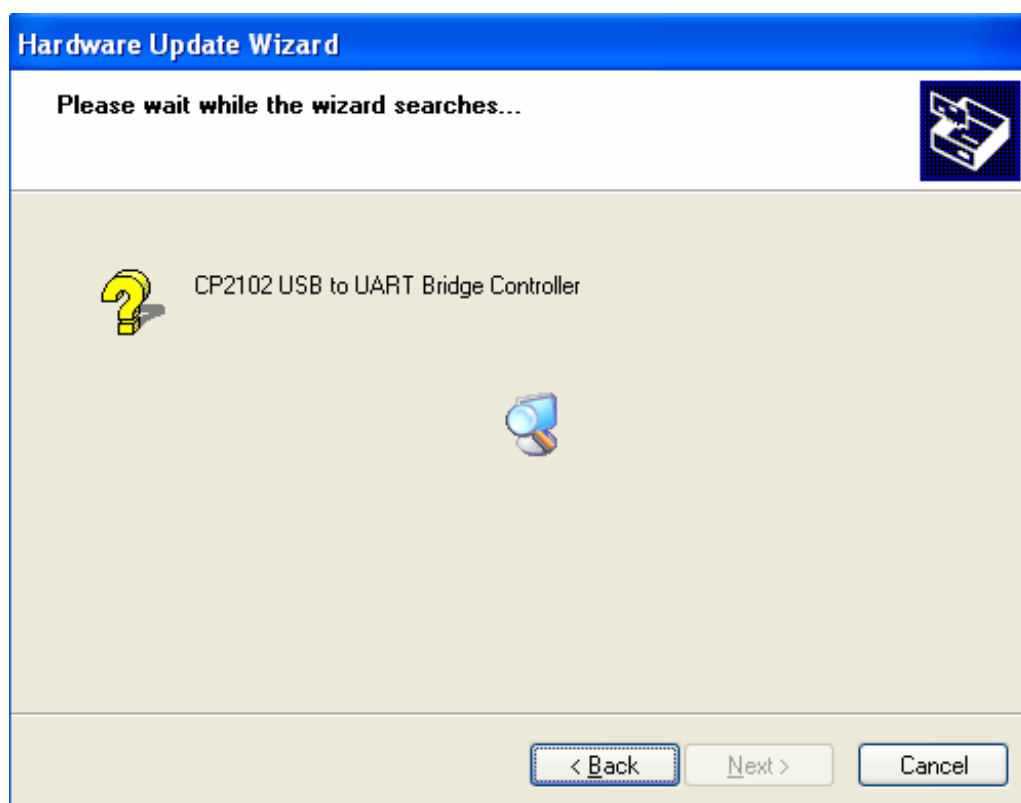

Figure 6
(6). Click "Next", the system is searching for the driver of CP2102 USB, as shown in figure 6.